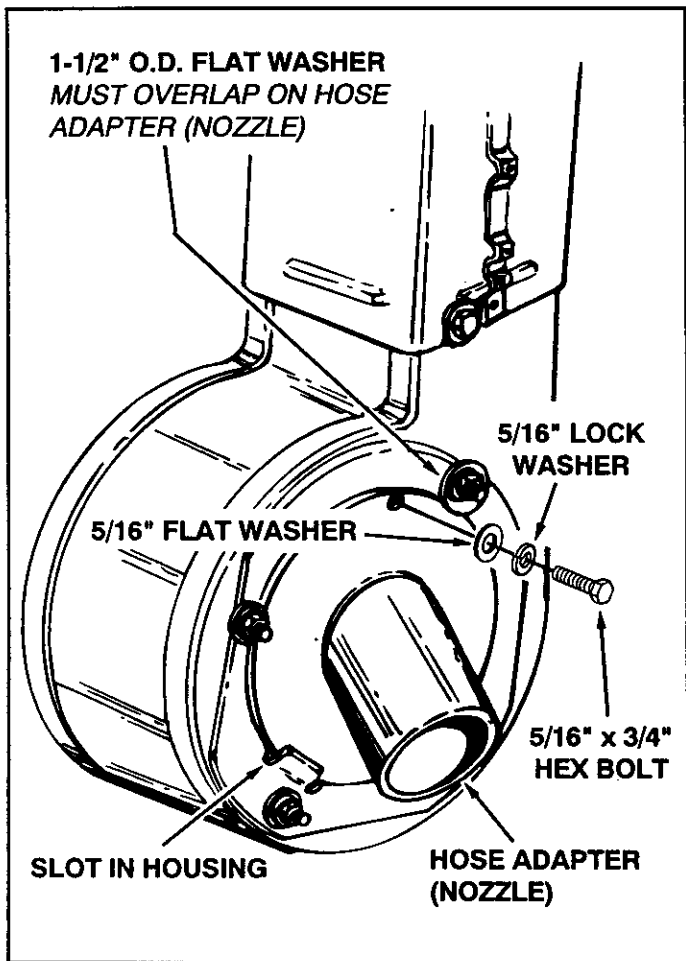

FIGURE 21
- Assemble the hose adapter (nozzle) into slots on front of housing and secure to housing with a 5/16" x 3/4" hex bolt, a 5/16" lock washer and a 5/16" flat washer as shown in figure 21. Remove hex nut and lock washer from weld bolt and place a 1-1/2" O.D. flat washer onto weld bolt so that it overlaps the hose adapter as shown in figure 21. Fasten with original hex nut and lock washer. Tighten securely.